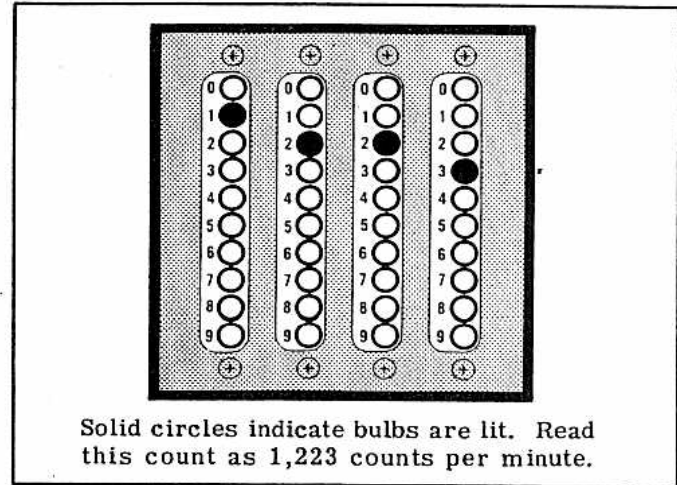

Figure 4. Scaler-Computer Counting
8. Read lights on Scaler-Computer from left to right in thousands, hundreds, tens, and units (see figure 4).
**CAUTION:** Plus and minus polarity is marked on board just above 15-volt "B" battery. Be sure to line up polarity markings on the battery with markings on board when replacing. If markings have become obliterated, refer to figure 4 for correct polarity.